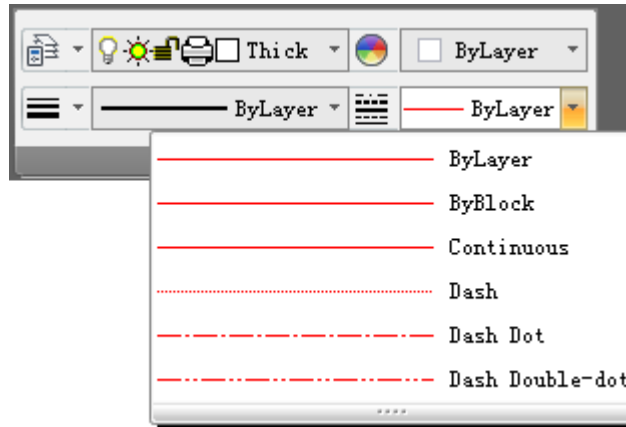

Figure 1-57 Line type pull down menu
(1) Click toolbar of Color Layer or click Attribute panel in Common tab, line type pull down menu will popup, left click to select desired line type in the list, the selected line type will become current one, as shown in figure 1-57.